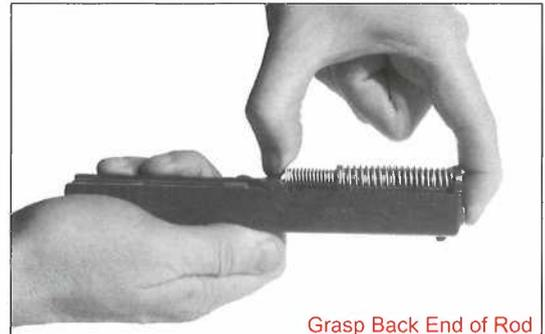

Fig. 17
- With thumb and forefinger, grasp the recoil spring assembly near the end that is against the barrel lug. The spring is “captured” on the rod and compressing the spring about 1/4 in. (6 mm) will allow it to be removed. (Fig. 17/18)